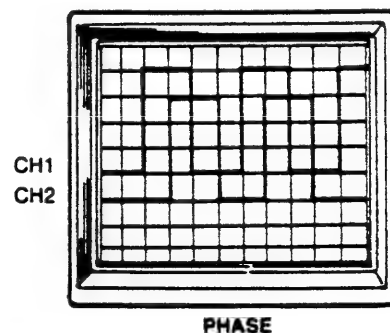

Figure 3-6.2C
13. Load film and turn the Film Speed Control clockwise until the Glass Flat just opens. The Channel 1 waveform should lead the Channel 2 waveform by $90^\circ \pm 15^\circ$ (Figure 3-6.2C).